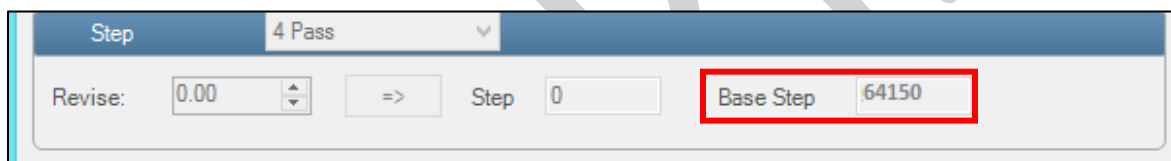

Fig 29: The Step Calibration Parameters
Step 1: Select the desired pass from the list and click on the **Print** button (Refer to Fig 29).
Step 2: Feed the correction value in the **Revise** field (the correction value up to two decimal places) (Refer to Fig 29).
Step 3: Click on the => icon (Refer to Fig 29) on the Step Calibration window. The correction value result will be reflected in the **Step** field (Refer to Fig 29). The same step value will also be displayed in the **Steps** field on the **Quick Access Toolbar**.